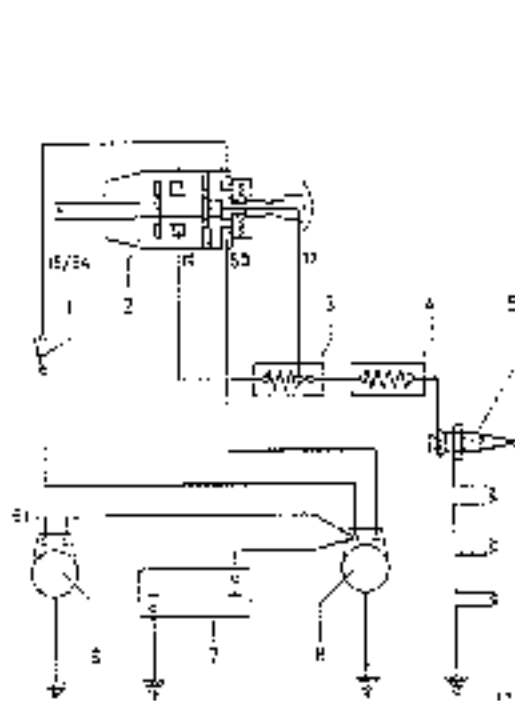

Fig. 15-33/3
Fig. 15-33/3 shows the wiring diagram for the individual components involved in the starting process. In this wiring diagram the push-pull switch is shown in the drive position (F). The whole system can only be operated after the main switch (1) has been closed which is done by turning the key to the position "Fahr" (drive).